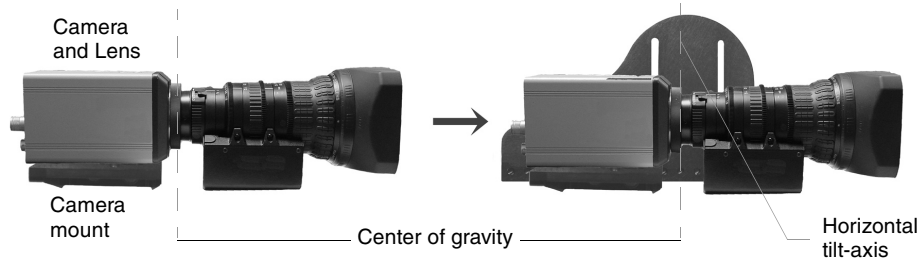

FIG. 16 Aligning the center of gravity for the camera and mount
6. Place the camera/mount into the appropriate location along the camera support bracket so the camera's center of gravity aligns with the horizontal tilt-axis, as shown in FIG. 16.